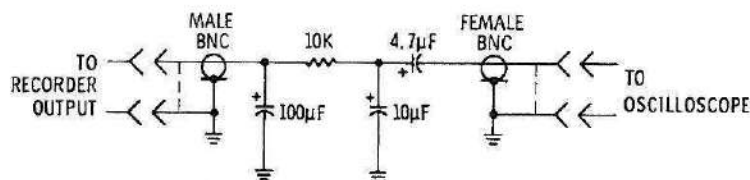

Figure 4. Noise Test Filter Schematic Diagram
Filter . . . . .	(See Figure 4)
2. Assemble the parts as shown in Figure 4.